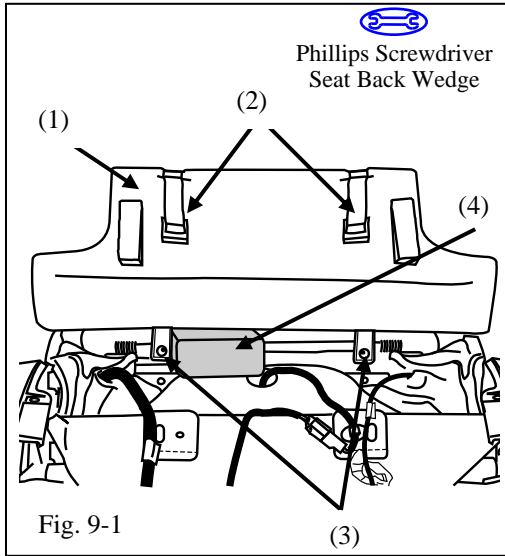

Fig. 9-1
- (1) Undo the protective seat bottom flap (1) by releasing the two elastic straps (2) secured under the seat and fold back. (Fig. 9-1)
- (2) Remove two Phillips screws (3) to spread the seat back cover open. (Fig. 9-1)
- (3) Carefully insert a 2"x4"x4" wedge (4) into the seat bottom to keep the back seat cover open. (Fig. 9-1)
- (4) Locate the Passenger Side DVD Headrest identified by the "M1" sticker on the screen and connector colors red and green.
- (9) Reinstall the two Phillips screws and reattach protective seat bottom flap. (Fig. 9-1)
- (10) Return the passenger seat to the vehicle and connect the red and green headrest cables to the red and green connectors on the headrest extension cable. Connect the other seat connectors.